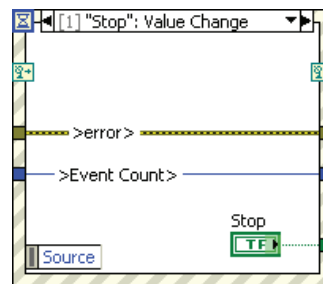

Figure 4-5. Stop Event Case
5. Create and configure the Stop event case to handle the Value Change event on the **Stop** Boolean control as shown in Figure 4-5.